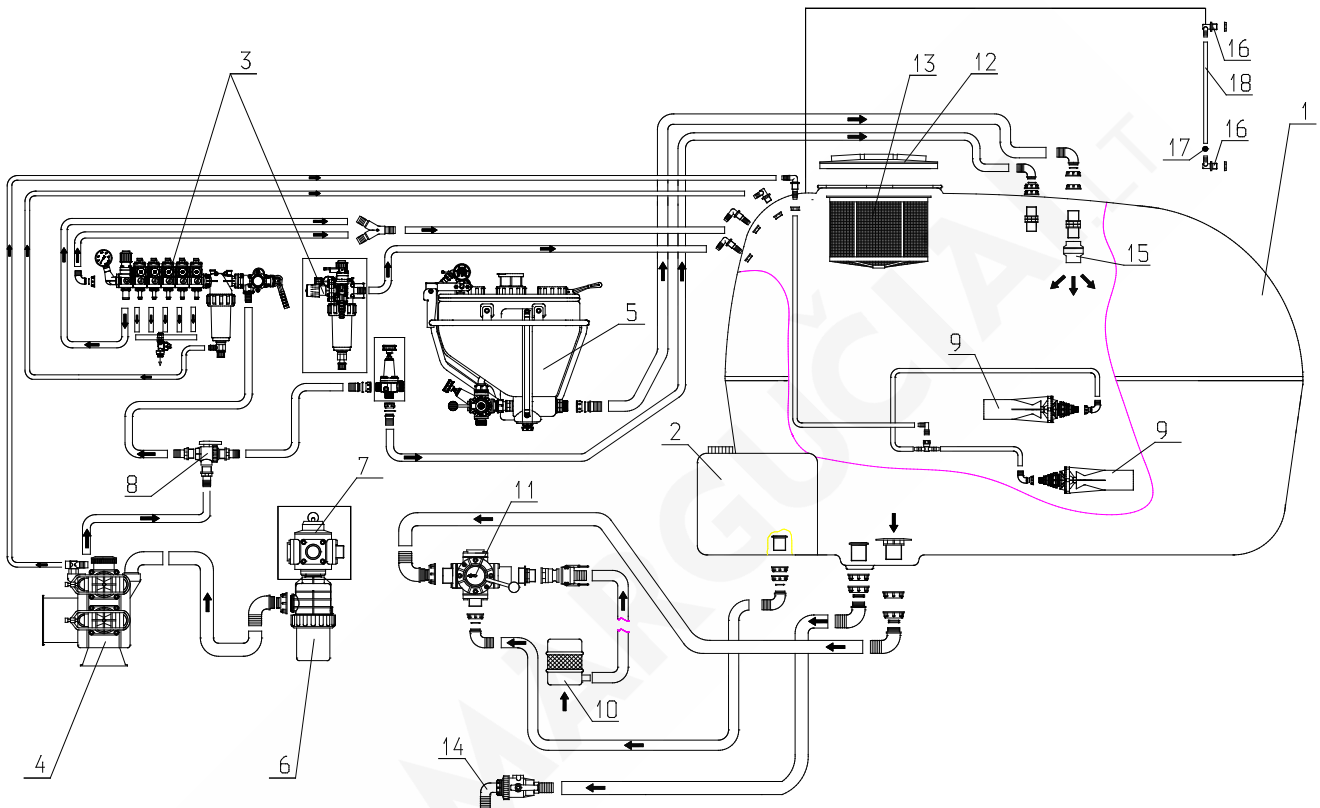

Figure 5 And circuit diagram of the liquid.
- receiver (Fig. 5, p 1) armed with accessories, along with induction hopper means chemicals (Fig. 5, p 5), the suction filter (Fig. 5, p 6), drain valve (Fig. 5, p 14th) filler wire (Fig. 5, p 13th) and a liquid level indicator. The tank is equipped with two hydraulic agitator (Fig. 5, p 9) embedded within, in the front and rear and in the washer reservoir.
- ARAG's control valve (Fig. 5, p 3), equipped with inter alia the filter self-cleaning, levers transfer, fluid flow regulator, the constant pressure control valve
- electric control valve, • three-way valve - Shut-off (Fig. 5, section 8)
- Fresh water tank capacity 200 l (Fig. 5, p second) with a flexible cable terminated with tap water to drain,
In Figure 5 a diagram of the action and the circulation of the liquid sprayers. When you turn on the PTO drive and run the circulation pump starts working fluid in the sprayer. The pump (Fig. 5, step 4) draws fluid from the reservoir through the suction filter (Fig. 5, p 6) and pumps it through a filter-stand pipe to shut-off valve to the section which is mounted a constant pressure regulating valve and pressure gauge. The liquid valve is fed to the nozzles of different expenses, embedded in the heads of the three outputs (on special equipment with five outputs). At the same time leads the liquid is supplied to hydraulic mixers, used for thorough mixing of the preparation. The excess fluid through the bleed valve control valve, liquid line back into the tank. Tank (Fig. 5, p 1) shall be filled with water pouring through a sieve (Fig. 5, p 13th), and the utility of liquid chemical induction hopper (Fig. 5, p 5). For quick draining of the liquid drain valve is used (Fig. 5, p 14th) placed under the tank. Rinsing and cleaning the tank, and the induction hopper flushing liquid used to clean the tank water (Fig. 5, p 2). Washer reservoir must be run through a control valve (Fig. 5, p 3) and shift changeover valve (Fig. 5, p 11) in the position of a clean water supply.